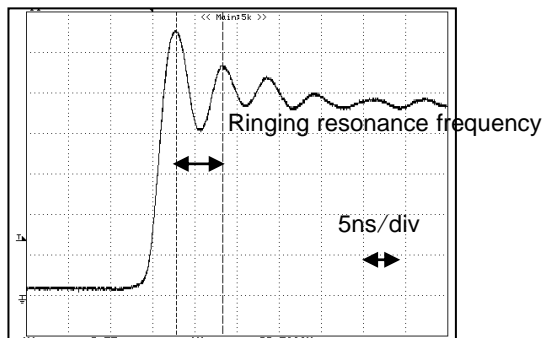

Figure 77. PWM Output waveform (Measure of ringing resonance frequency)
- ① Measure the ringing resonance frequency f_1 of the PWM output wave shape (When it stands up.) by using FET probe in the OUT terminal. (Figure 77) The FET probe is to monitor very near pin and shorten ground lead at the time of that.
- ② Measure resonance frequency f_2 of the ringing as a snubber circuit fixed number $R=0\Omega$. (Only with connecting the capacitor C to GND) At this time, the value of the capacitor C is adjusted until it becomes half of the frequency ($2f_2=f_1$) of the resonance frequency f_1 of ①. The value of C which it could get here is three times of the parasitic capacity C_p that a ringing is formed. ($C=3C_p$)
- ③ Parasitic inductance L_p is looked for at the next formula.